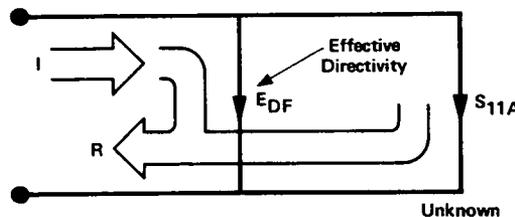

Figure 5-24
In such a measurement, all of the incident signal does not always reach the unknown (see Figure 5-24). Some of (I) may appear at the measurement system input due to leakage through the signal separation devices. Also, some of (I) may be reflected by imperfect adapters between signal separation and the measurement plane. The vector sum of the leakage and miscellaneous reflections is directivity, E_{DF} . The measurement is distorted when the directivity signal combines vectorally with the actual reflected signal from the unknown, S_{11A} .